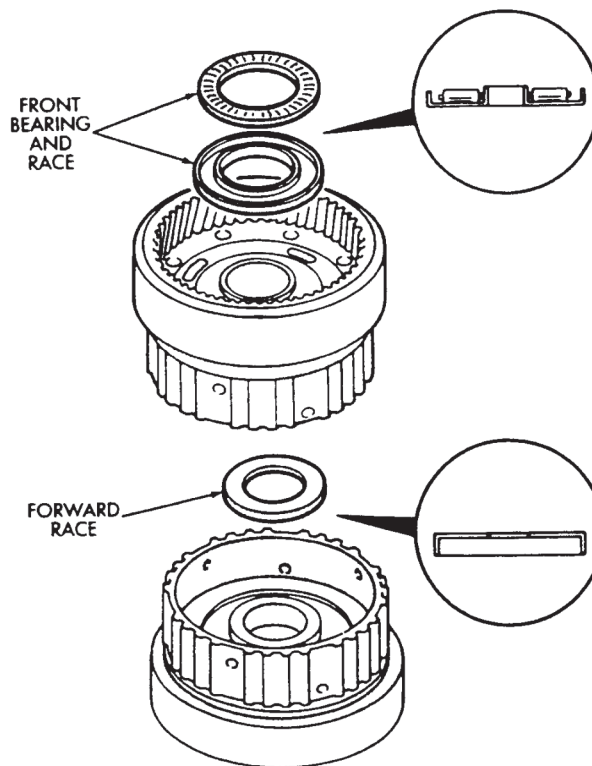

Fig. 4 Installing Front Planetary Front Bearing and Races
- (5) Install front race and bearing and forward race in ring gear (Fig. 4).
- (6) Set planetary gear assembly aside for final assembly.
(3) Remove thrust washer from drum (Fig. 4).